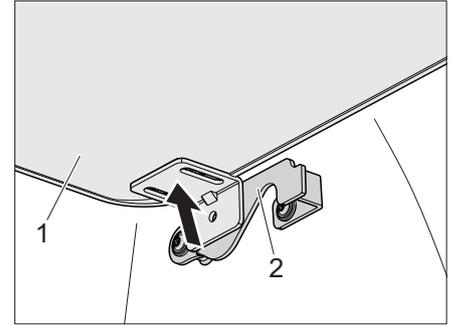

Fig. 22 Journal
- Lift the bed extension (Fig. 22,1) on the left and right out of the holder (Fig. 22,2).